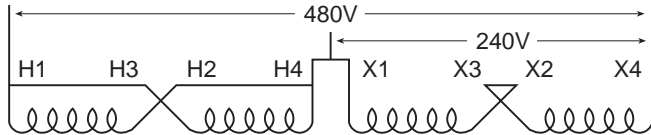

Figure 1
36. Can 4-Winding Single Phase Transformer be auto-connected? Yes. There are occasions where 480 volts single phase can be stepped down to 240 volts single phase by autoconnecting a standard 4-winding isolating transformer as shown in Figure 1. If connected in this manner, the nameplate kVA is doubled. For example a 2 kVA load can be applied to a 1 kVA 4-winding transformer if connected per Figure 1.